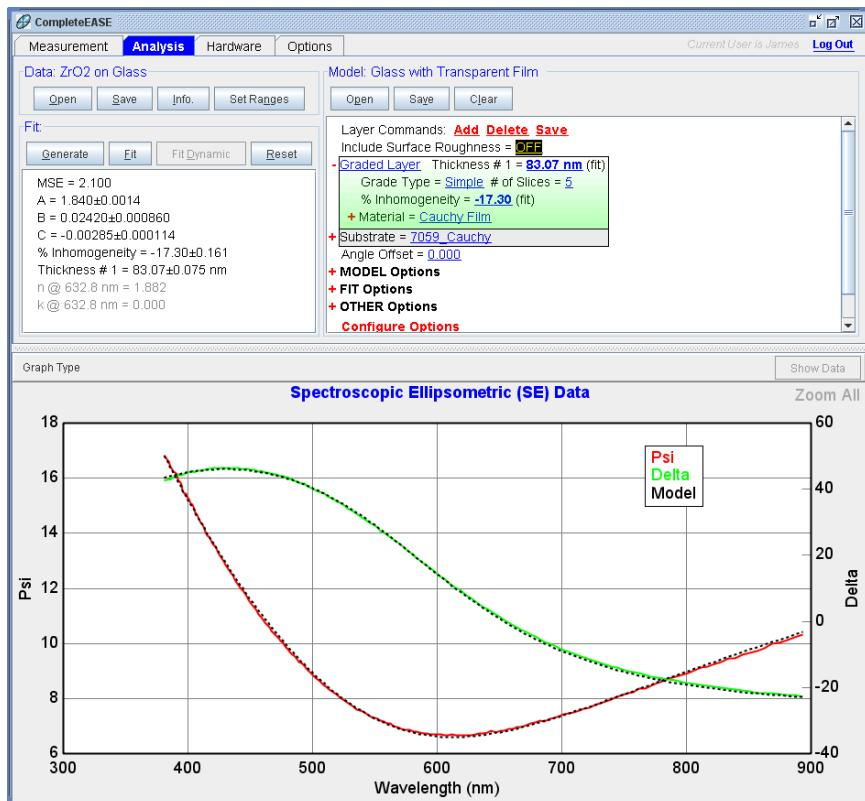

Figure 3-51. Fit to “ZrO2 on Glass” data with index Grading ON.
- Press ‘Fit’ and the results will appear as in Figure 3-51.